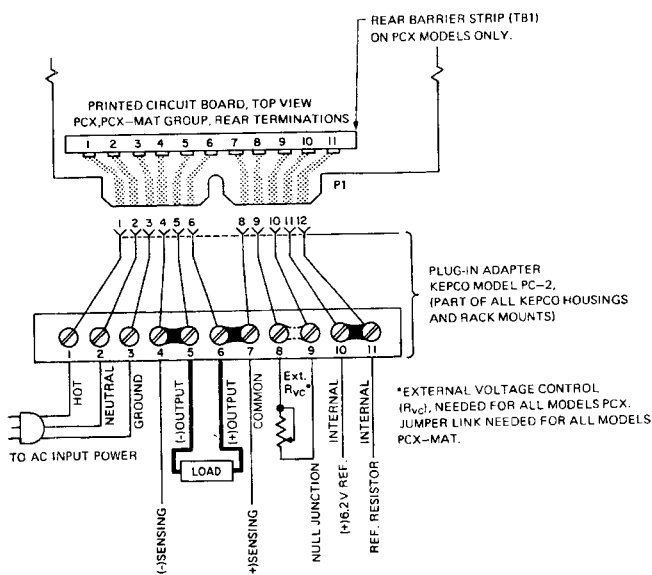

FIG. 3-1 REAR CONNECTIONS FOR STANDARD OPERATION
3-1 STANDARD OPERATION, LOCAL CONTROL (Refer to FIG. 3-1)
- 3-3 The load should be connected as shown (on PCX-MAT models, the load may be connected to the front terminals). Error sensing, as described below (Refer to paragraph 3-5) is recommended to insure specified performance directly at the load. Standard jumper link connections for local control are shown in FIG. 3-1 below. All load connections and jumper links must be tight and secure for proper operation. If the indicated Plug-In Adaptor (PC-2) is not used, the jumper links must be provided on the mating connector to P1. In the case of PCX Models which are equipped with their own miniature barrier strip (TB1), the jumper links on TB1 must be removed, if an adaptor (PC2-part of all cases and rack mounts) is used.
- 3-4 The connecting diagrams shown in the following paragraphs show ONE barrier strip only. This barrier strip represents the rear terminations of the PCX as well as that of the PCX-MAT group. The relationship between barrier strip terminals and pin numbers on P1 may be found by referring to FIG. 3-1. AC line connections (as shown in FIG. 3-1) have been omitted in order to simplify the presentation.